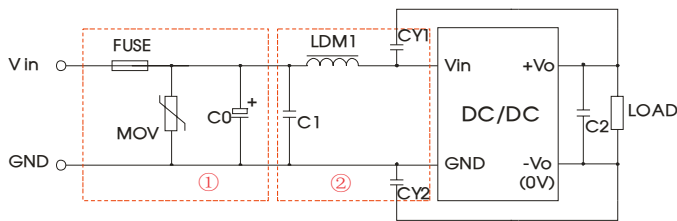

Fig. 3
Radiated emission	CISPR22/EN55022 CLASS A (Bare component)/ CLASS B (see Fig.3-② for recommended circuit)
Notes: Part ① in the Fig. 3 is used for EMS test and part ② for EMI filtering; selected based on needs.